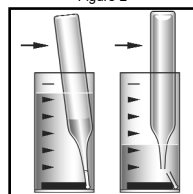

Figure 3
For CHEMetrics photometers, follow the **Setup and Measurement Procedures** in the operator's manual. For spectrophotometers, set the wavelength to 505 nm. A sealed ZERO ampoule is supplied in this kit for zeroing when the sample is colorless and not turbid. For improved accuracy with colored or turbid samples, Sample Zeroing Accessory Pack, Cat. # A-0503 is recommended. Using the sample cup, snap the tip of the A-0503 ampoule in the sample (see figure 3 below). Invert the ampoule to mix. Dry the ampoule and use it in place of the supplied ZERO ampoule to zero the instrument.
3. Place the Vacu-vial ampoule, tip first, into the sample cup. Snap the tip. The ampoule will fill leaving a bubble for mixing (fig 3).